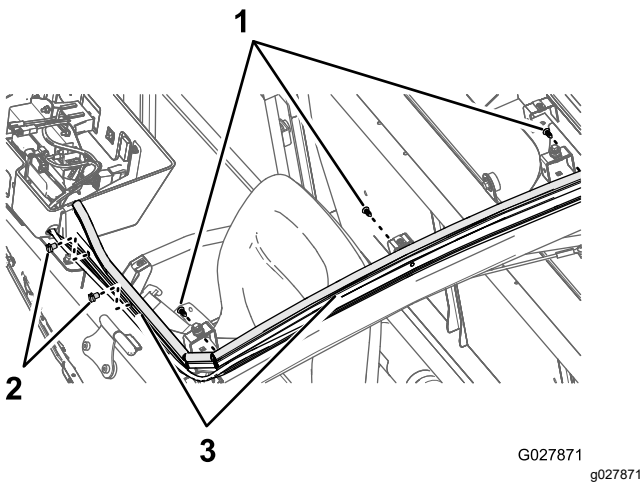
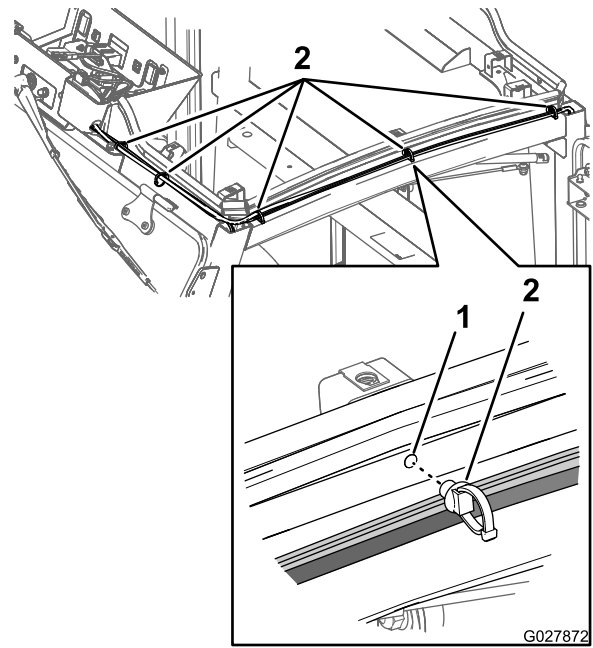

Figure 30
Figure 31
1. Remove the 2 harness clips that secure the cab wire harness to the front, left cab frame (Figure 30).
2. Install 2 push fasteners at the location where you removed the harness clips in step 1 (Figure 30 and Figure 31).
3. Secure the cab harness, washer-pump harness, and hose with the cable tie portion of the push fasteners (Figure 31).
4. Remove the 3 push fasteners above the driver's door frame (Figure 30).
5. Install 3 push fasteners at the location where you removed the push fasteners in step 4 (Figure 30 and Figure 31).